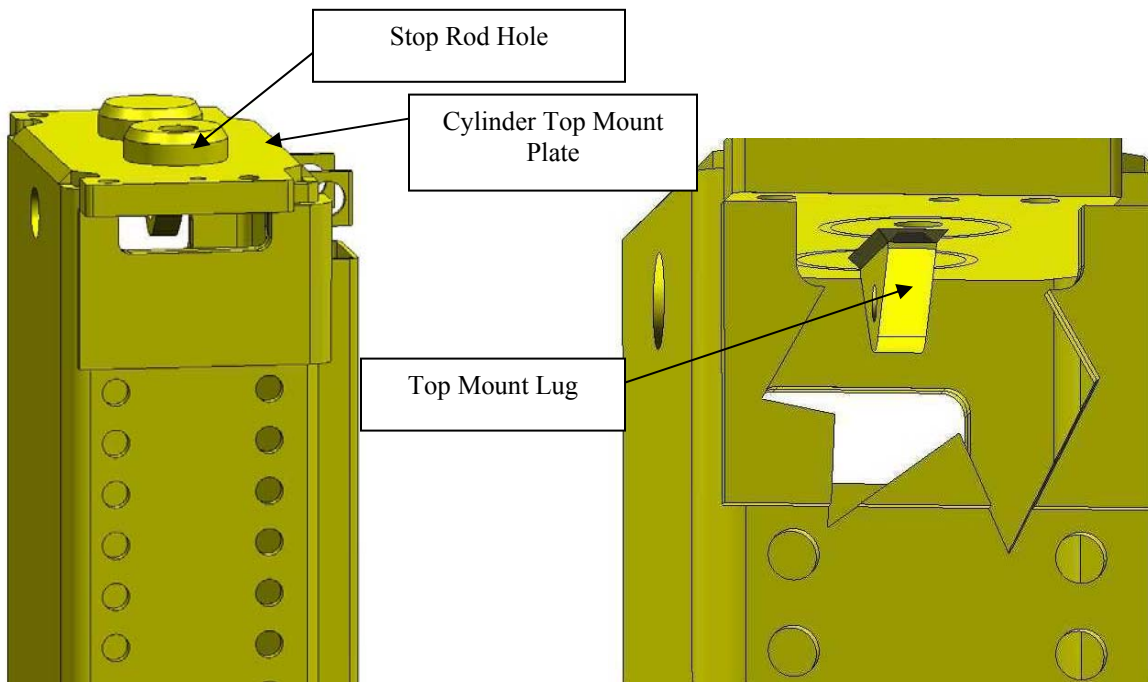

Figure 1: Short Outer Tube - Top Mount Lug
g) Once the cylinder top mount plate is cool, place in the notch on top of the outer tube. Make sure that the orientation of the plate is in a manner where the stop rod hole is as shown in figure 1. Also, ensure that the plate is perpendicular to the sides of the outer tube, level if necessary.